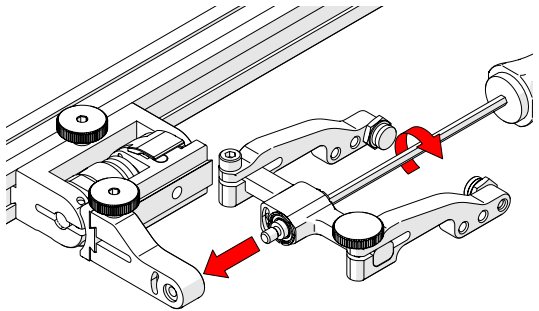

Fig. 83 - Install yoke to swing arm
6. Using the 3 mm hex driver, screw the yoke pivot screw into the opposite side of the probe holder swing arm (Fig. 83). Ensure the yoke is level to avoid issues with the plunger/set screw.